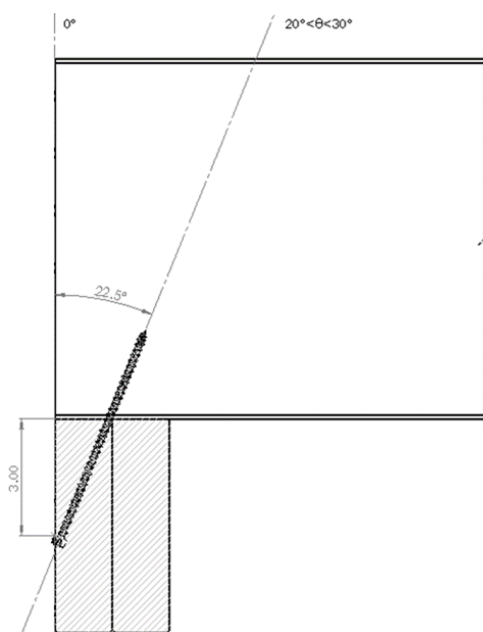

Figure 13. Joist to Beam - Deck Connection
- 2.9.1 Install CAMO Series #14 x 6" Truss Screws upward through the deck beam and into the center of the joist. The fastener shall be installed at an upward angle from the vertical of 20° to 30° (Figure 13) and shall penetrate the deck joist within $\frac{1}{4}$ " of the centerline. Install fasteners away from the end of the joist.